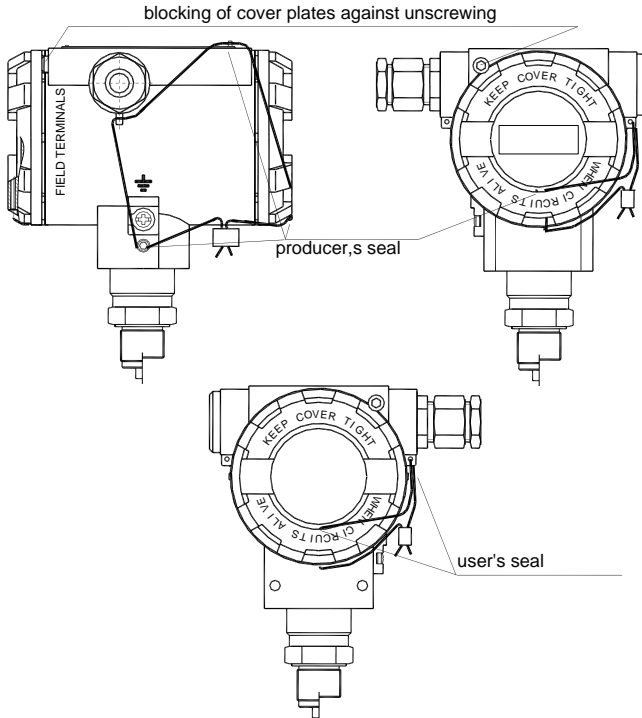

Fig 1c. APC-2000ALW in MID application. Sealed up transmitter.
**8.2. Blocking by the gas volume conversion manufacturer.** Turn on the "spec MID locking" with local buttons using local menu of transmitter (p.10.2.5.2 DTR.APC.APR.ALW.03(ENG), MID\_WP – "ON"). Put the seals of the gas volume conversion producer on the cover, screw of a sensor head and a label if it is metal made. Places of seals application is shown by the arrows at Fig. 1c. Seal should be made in accordance with the documentation of gas volume conversions in the place/country their use.